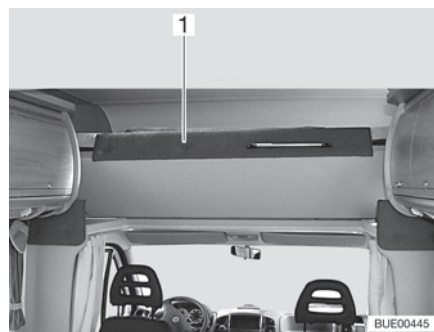

Fig. 102 Overcab bed, folded upwards
- Fold the front of the overcab bed (Fig. 102,1) upwards. The overcab bed is kept in the upper position by gas-pressure springs.